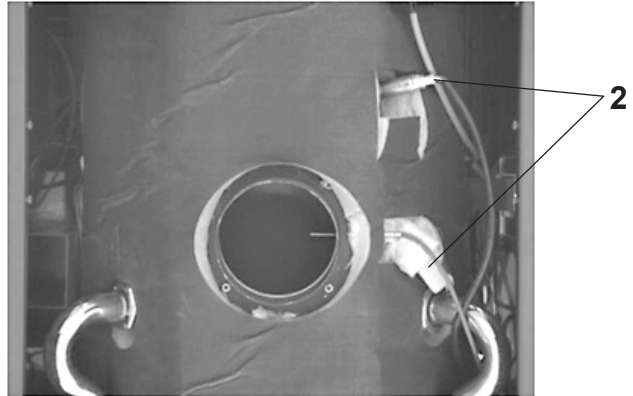

Fig. 08
2. Remove the lambda probe (2, Fig. 08) and clean using a brush and vacuum cleaner